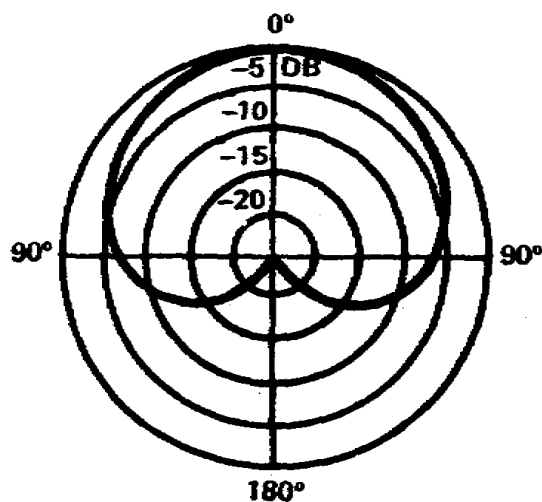

Figure 2-23. Cardoid pickup pattern
(3) The Cardoid Pickup Pattern. Microphones with this polar pattern accept sound best at 0° point, with minimal response at the 180 degree point and with varying degrees of response at the in-between points (fig 2-23). This pattern varies at the size and shape of the lobes below the 90 degree points on the graph change.